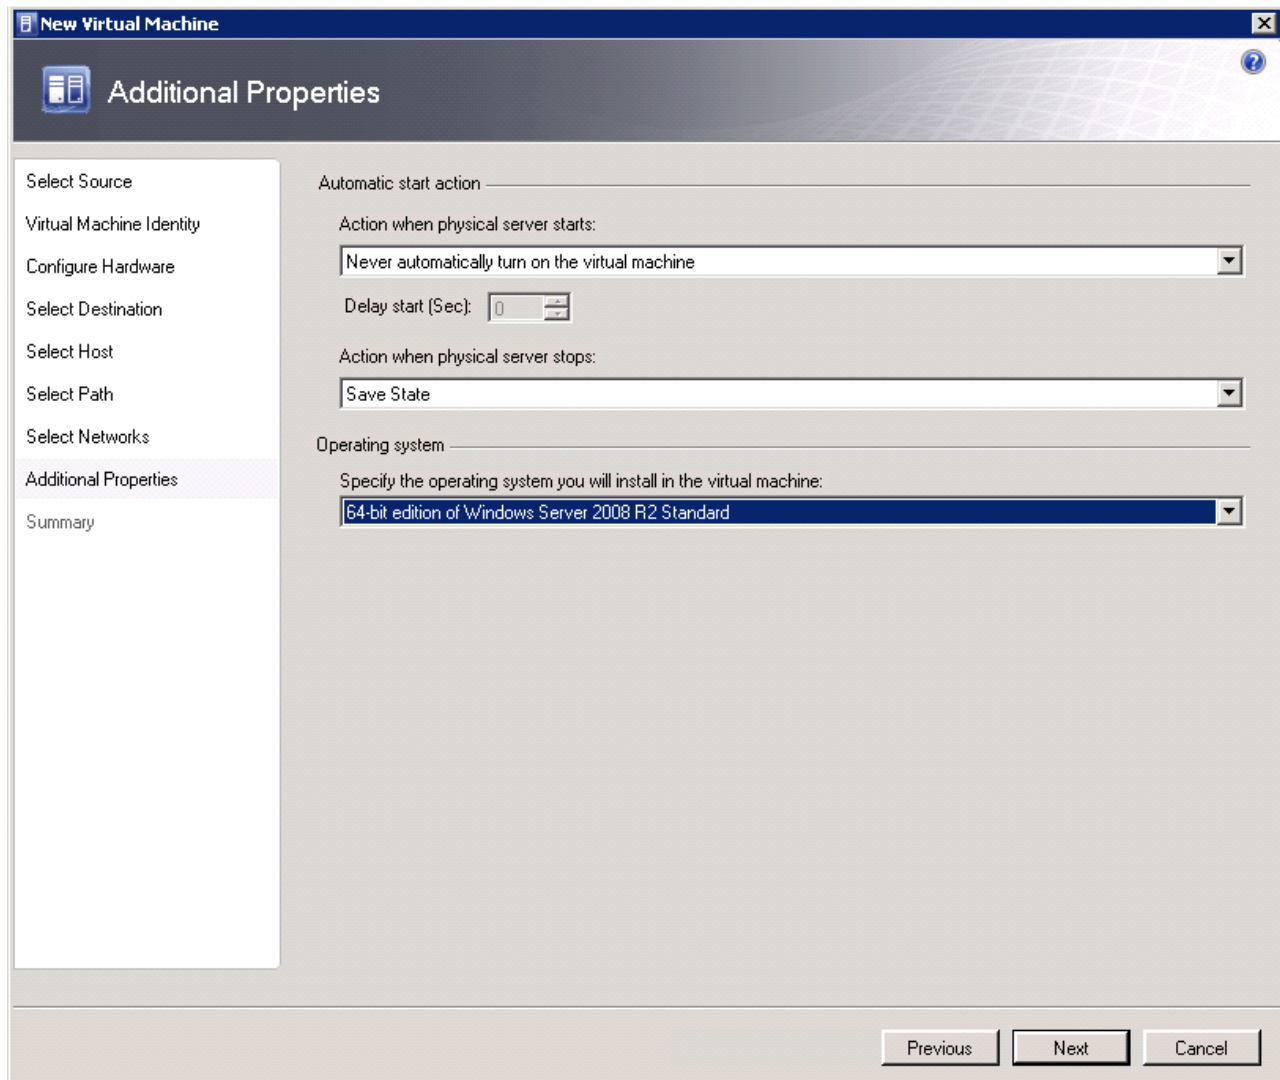

Figure 3-20 New Virtual Machine wizard: Additional Properties
16. In the Additional Properties window, confirm any additional properties, as shown in Figure 3-20. Click **Next**.